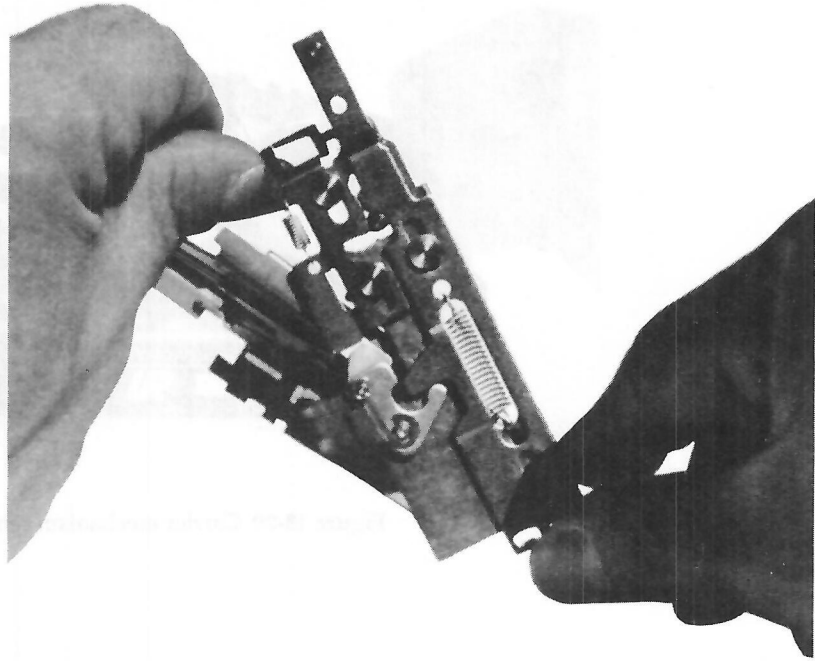

Figure 13-22 Work the sliders back and forth until all of the old grease is gone.
11. Work the levers back and forth as shown in Figure 13-22. Thumbs are shown on the release points. Work these points back and forth and respray as necessary until all of the old grease is gone.